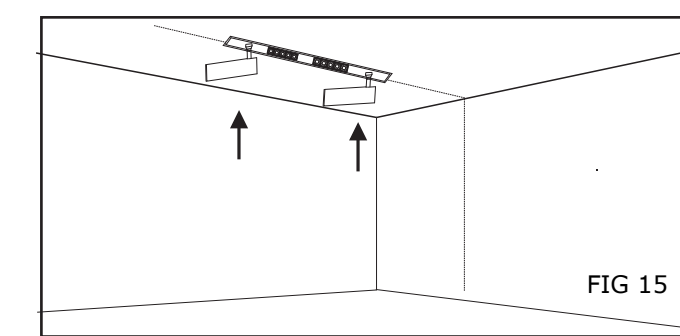

FIG 15
5. Load the magnetic track lights into the track then switch on the power to test the light (Fig 15).